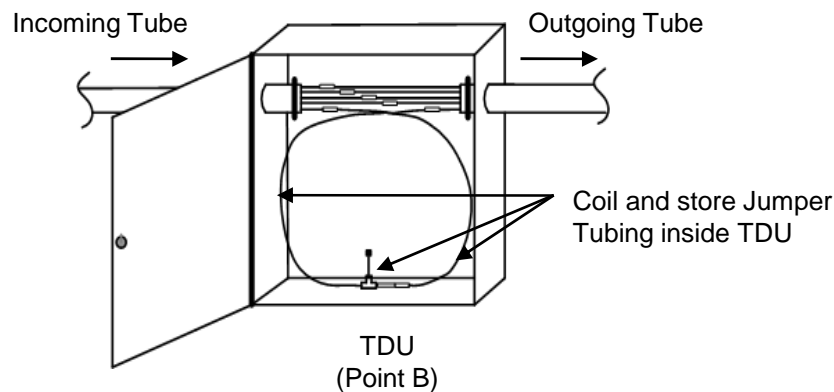

Figure 11
12.4 Carefully coil all jumper tubing and store inside Point B TDU. **See Fig. 11.**